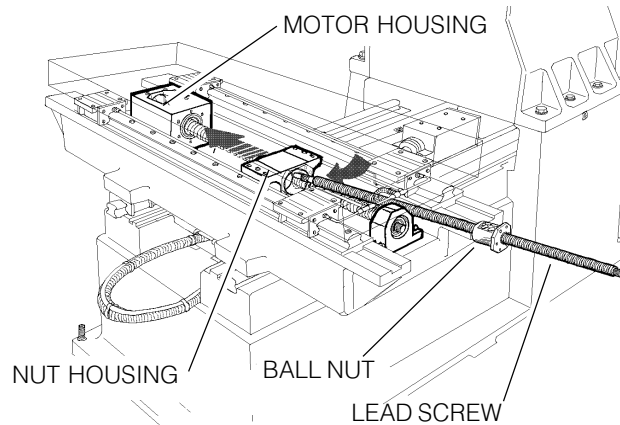

Fig. 11-3 Install lead screw from right side.
3. Insert the lead screw through the nut housing and motor housing (See Fig. 11-3), taking care not to make contact with the screw threads, causing possible damage.